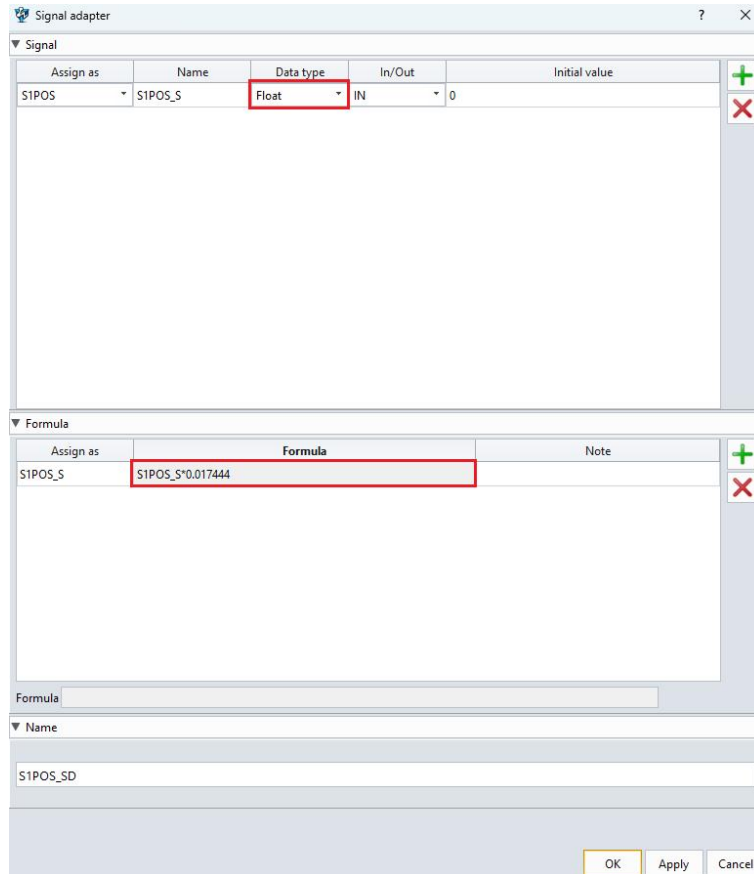

Figure 12-8: Signal adapter S1Pos_SD
- Follow these steps for each joint: (Figure 12-8)